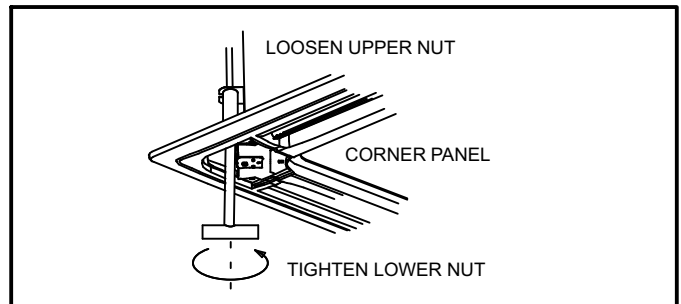

Figure 17. Adjust Unit Height Through Corner Panel
- 11 - If it is necessary to adjust the cassette height after the cover panel has been installed, access the leveling nut through the removable access cover on each corner. See figure 17.